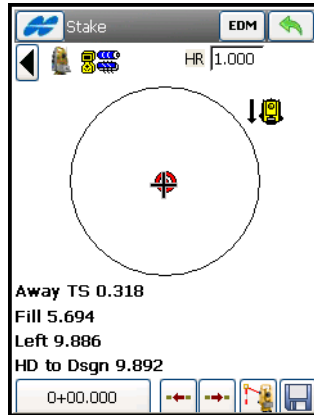

Figure 9-29. Stakeout TS
5. For TS: sight the prism. On the **Stake** screen tap the  button to measure the target. Tap the **EDM** button to select distance measurement mode, either *Coarse*, *Fine* or *Coarse Tracking*. Once the position is close enough to the desired point, tap  to store it. Tap the  /  buttons to retreat/advance the station by the specified Station Interval, for staking out the previous/next station, respectively (Figure 9-29 on page 9-22).